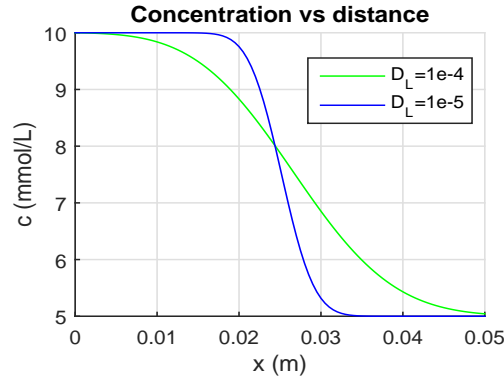

FIGURE 1. Concentration distribution at  $t = 0.5h$ . Larger dispersion coefficient  $D_L$  leads to smoother distribution of the injected species.
- Example: let  $x = 0.03$  m. See figure 1
- See figure 1